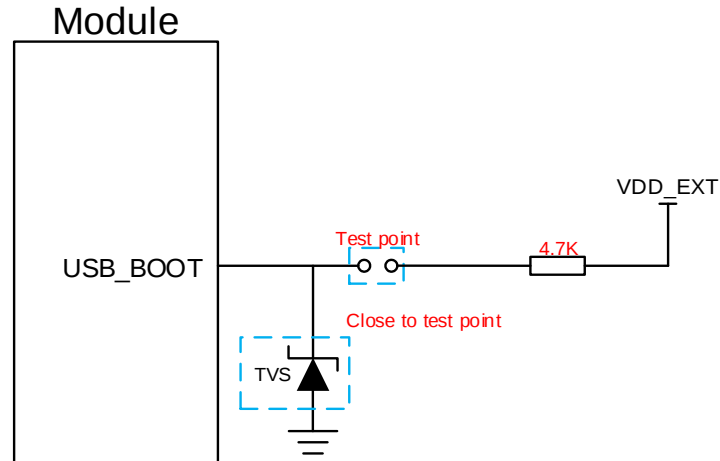

Figure 32: Reference Circuit of USB_BOOT Interface
2. When using MCU to control the module to enter the forced download mode, follow the above timing sequence. It is not recommended to pull up USB_BOOT to 1.8 V before powering up VBAT. Connecting the test points as shown in **Figure 32** can manually force the module to enter download mode.